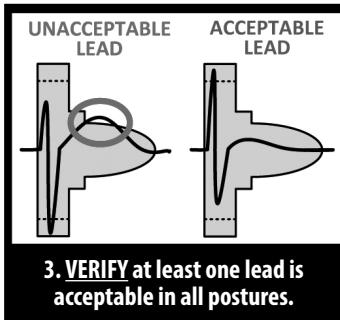

Figure 4: Evaluating the QRS complex
4. **Evaluate** the QRS complex. If the entire QRS complex and trailing T-wave are contained within the colored profile, the QRS is deemed acceptable. If any portion of the QRS complex or trailing T-wave extends outside of the colored profile, the QRS is deemed unacceptable (*Figure 4*).